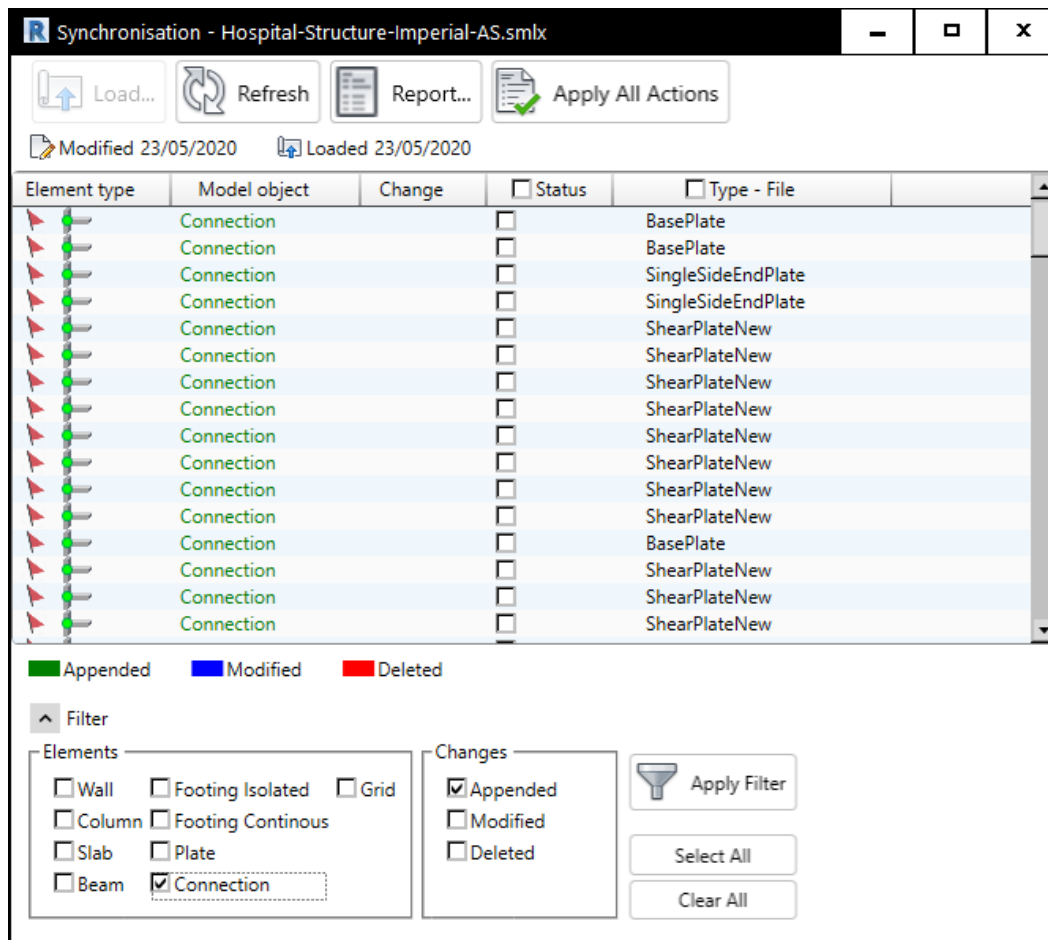

FIGURE 37: THE SYNCHRONISATION DIALOG BOX SHOWING THE APPENDED CONNECTIONS
3. Expand the dialog box by and clear the filter of all the changes, except **Connections** and **Appended**, as shown in Figure 37.